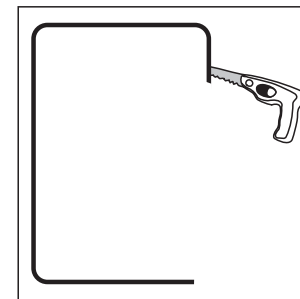

Figure 11—Cut the hole with the appropriate tool.
3. Carefully cut a hole with the appropriate cutting tool for your wall or ceiling material. Start the hole by drilling on the inside of the tracing (with the drill bit touching the line). Use this hole to insert the saw or knife and begin cutting (figure 11).